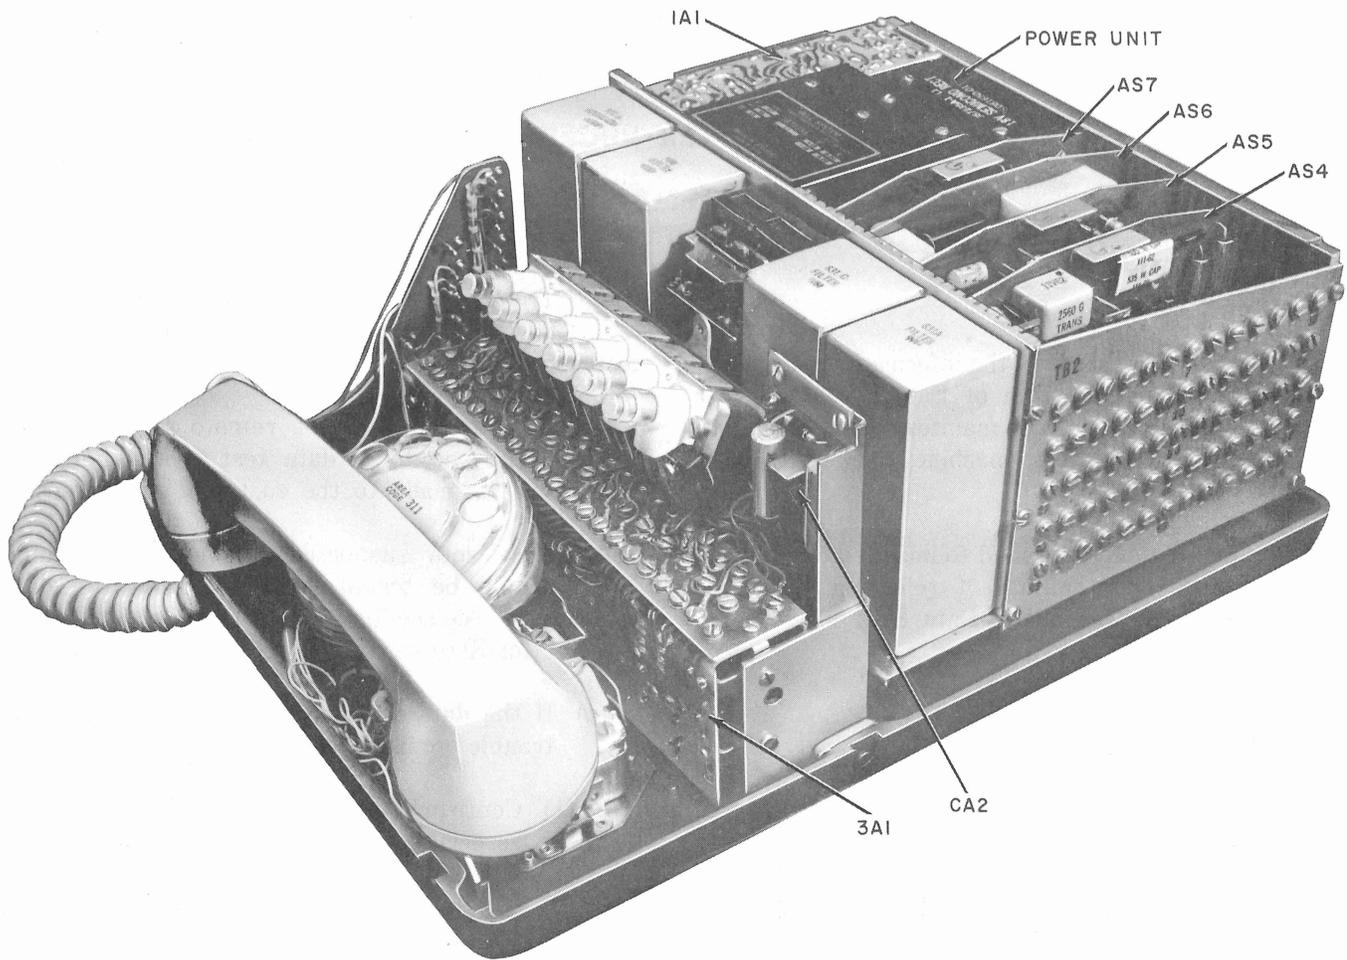

Fig. 1—Data Set 602C-Type (Available Also With TOUCH-TONE® Dial)
1.01 This section contains the information necessary for the maintenance of Data Set 602C-type (Fig. 1). It does not include maintenance information concerning the business machine used with the data set.